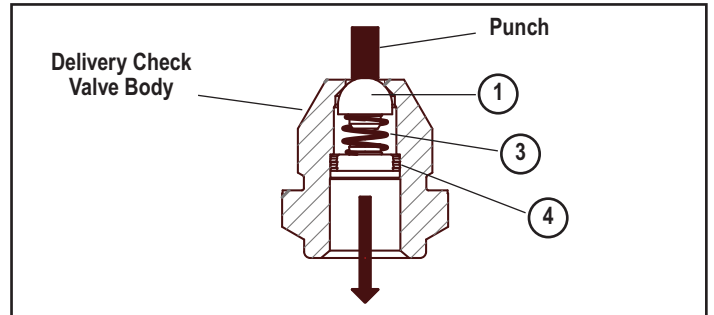

Figure 4 - Check Valve Disassembly - Type "B" End Cover
2. Remove the outer o-ring (2) from the delivery check valve body.
3. Place the check valve on a bench with the hex end down. Use a hammer and punch to remove the retainer (4), spring (3) and check valve (1) from the check valve housing as shown in Figure 4. Discard items 1 through 4.
1. Assemble the spring (3) to the retainer (4) and check valve (1) as shown in Figure 4. Ensure the spring (3) is fully seated on the retainer (4) and the check valve (1).